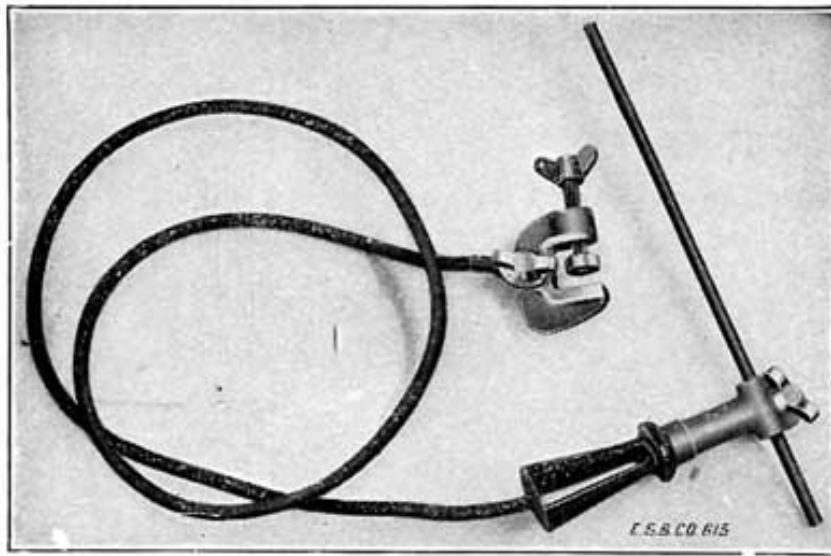

Fig. 80. Carbon Lead Burning Outfit
8. Carbon Arc. This is a very simple method, and requires only a spare 6 volt battery, a 1/4 inch carbon rod, carbon holder, cable, and clamp for attaching to battery. This outfit is shown in Fig. 80. It may be bought from the American Bureau of Engineering, Inc., Chicago, Ill. This outfit is intended to be used only when gas is not available, and not where considerable burning is to be done.